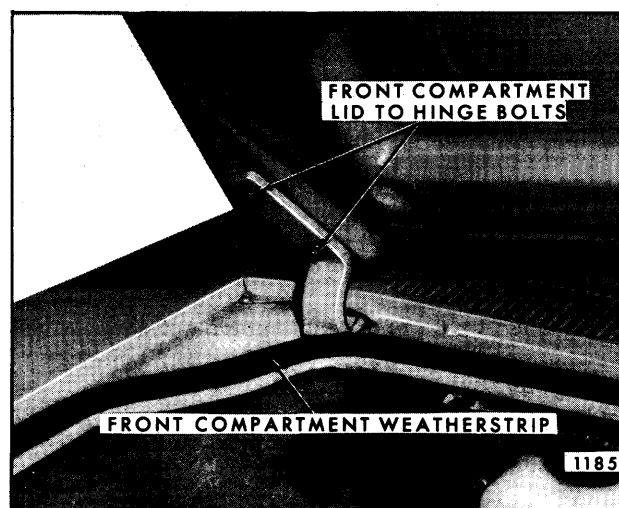

Fig. 5-14—Front Compartment Weatherstrip and Front Compartment Lid Attaching Bolts
3. With the aid of a helper, remove hinge to lid attaching bolts from each hinge and remove lid. (See Fig. 5-14.)
- a. To raise rear edge of lid at hinge area, place shim between hinge strap and lid inner panel at rear attaching bolt (Fig. 5-14).
- b. To lower rear edge of lid at hinge area, place shim between hinge strap and lid inner panel at front attaching bolt (Fig. 5-14).